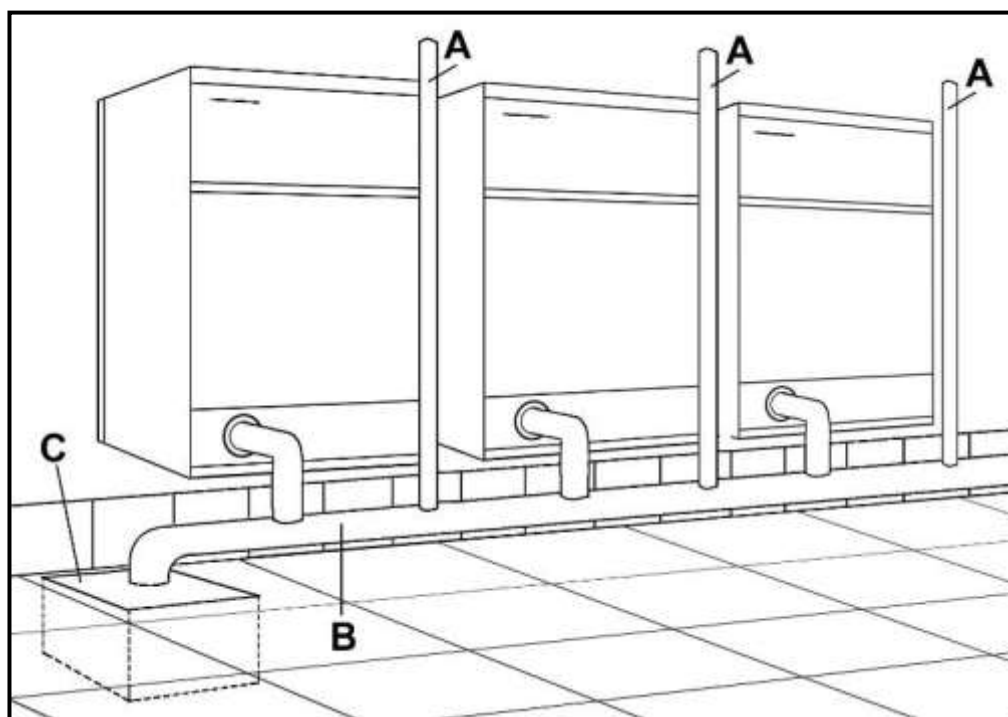

Fig. 3.3
**Direct connection of the washer drain to the manifold (Fig. 3.3)**
The emptying of the drain trap to the sewer system is done through an open drain box (Fig. 3.3/**B** and **C**) which prevents variations in pressure and backflow to the drain. **The end of the drain trap must not be sunk in the drain box.**